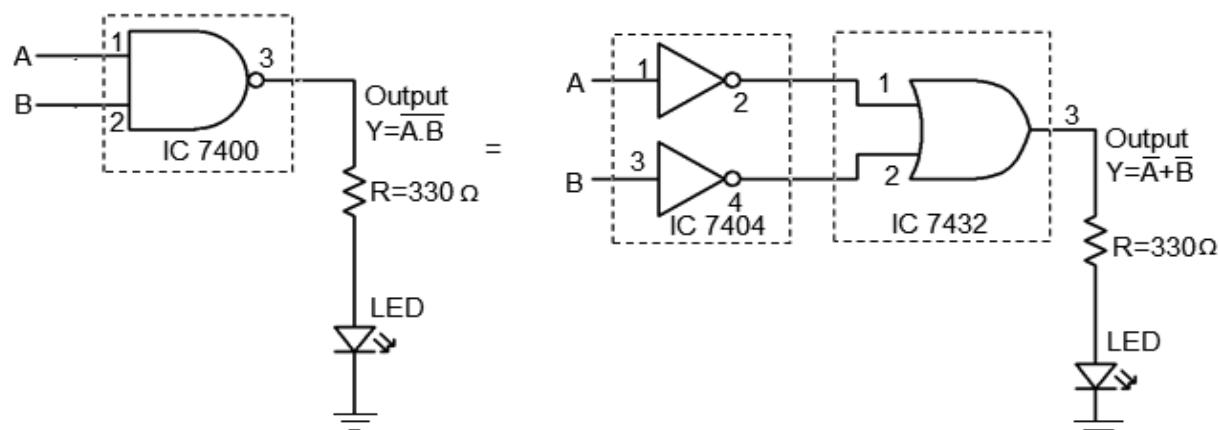

Figure 4.2 De Morgan's second theorem
- Repeat the process for figure 4.2.